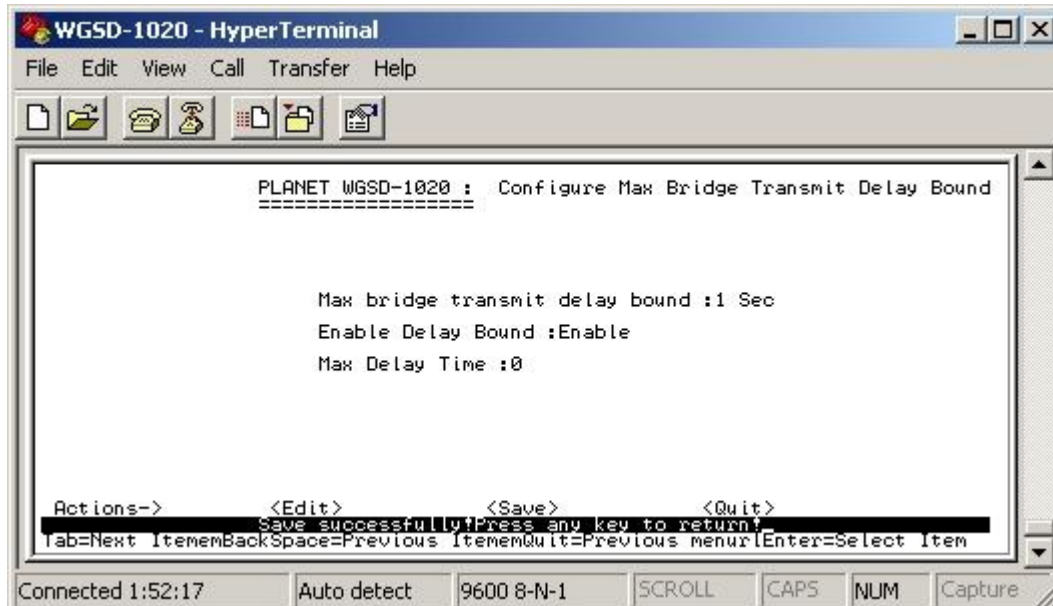

Figure 4-44 Enable Delay Bound save successfully screen
2. After setup completed, press” **Ctrl-A**” to “**Action menu**” and choose “**save**” to save the current configure. The screen in Figure 4-44 appears.